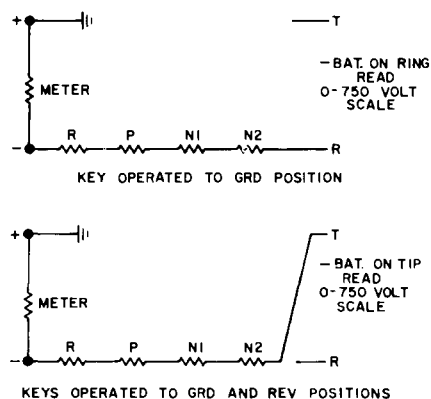

Figure 12. Test for foreign negative potential on ring or tip.
5.2.3 Test for foreign negative potential on ring (figure 12).
5.2.5 Test for foreign negative potential on the tip (figure 12).